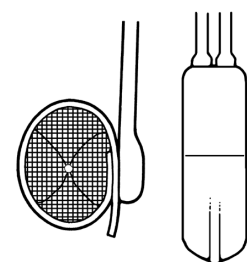

Figure 4-41. Cuff and Pump Refilled
*Note: This will move deactivation poppet back to activated position. After device is activated, pump will fill first and then cuff will refill (**Figure 4-41**). It will take a few minutes for device to refill and for cuff to close off urethra or bladder neck. When system is activated, the pump may become less firm.*